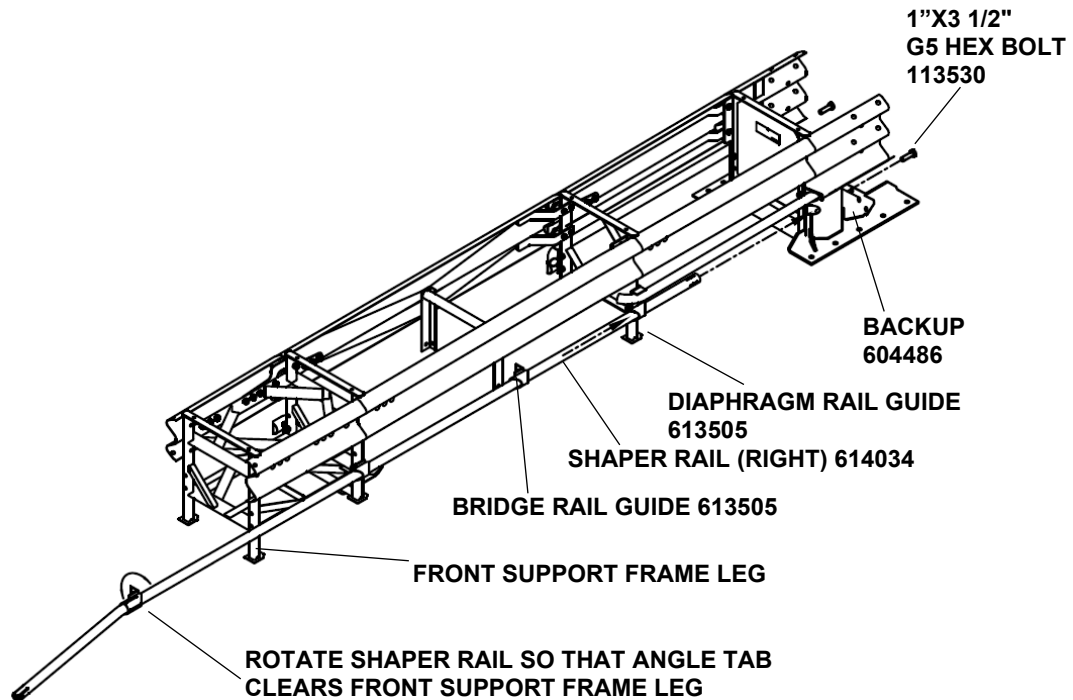

**Figure 20**
- a. Bolt the Rail Guides onto Bay 1 and the Diaphragm. Be sure to orient the Guides correctly (Figure 20).